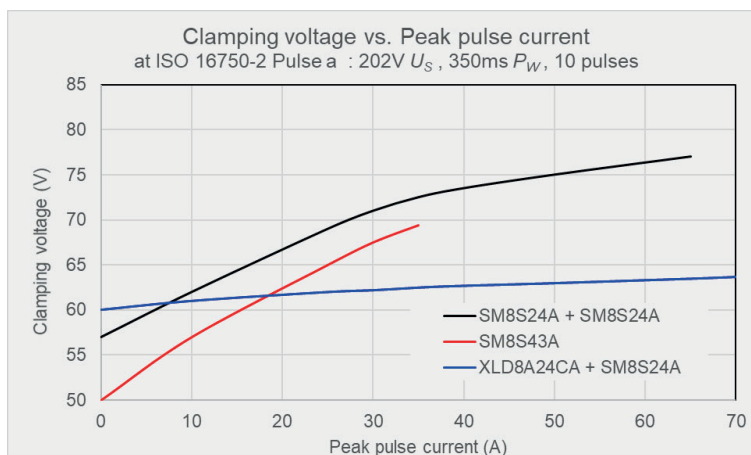

Fig.2-6: Clamping Voltage vs. Peak Pulse Current
- ⁽¹⁾ The XLD8A24CA and SM8S24A in series can clamp under 65 V at a 70 A peak pulse current (Fig.2-6), which can be applied to a single pulse ISO16750-2: 2012 test condition - 202 V, 350 ms, and 2 Ω condition (Fig.27).